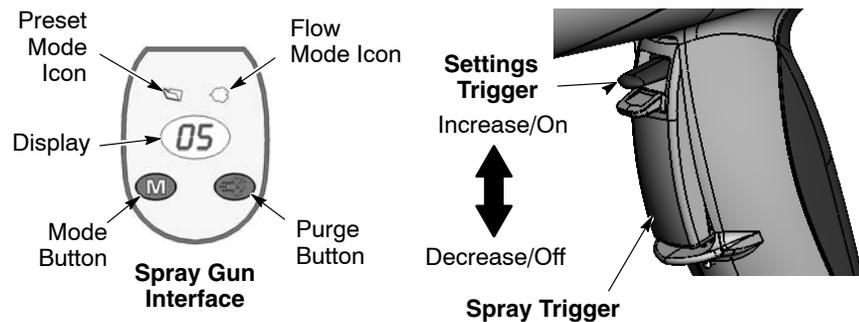

Figure 4-3 Gun Controls
1. See Figure 4-3. Release the spray trigger. Presets cannot be changed while the gun is triggered on.
1. See Figure 4-3. Press and hold the **Mode** button until the **Flow Mode** icon is lit.
1. See Figure 4-3. Point the gun into the booth and release the spray trigger.